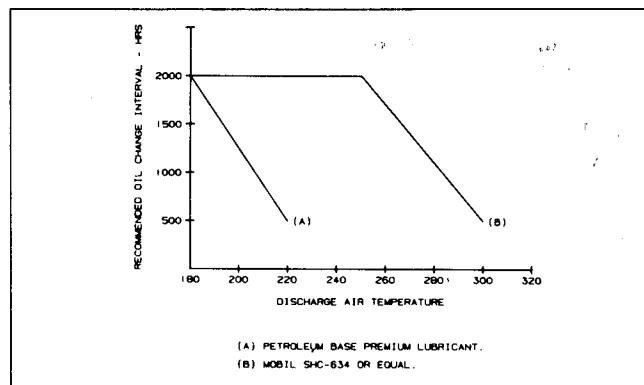

Figure 4 Oil Change Hours
If the discharge air temperature is less than 220° F, petroleum base rust, oxidation and foam inhibited premium grade of non-detergent oil of the correct viscosity grade as listed in Table - 2 should be satisfactory. Figure 4 provides guide lines for recommended oil change interval. In a very dusty location, more frequent oil change may be required. Gear end sump is drained by removing plug (22). For draining drive end sumps, remove oiler reservoirs, remove plugs at the bottom of the oilers.